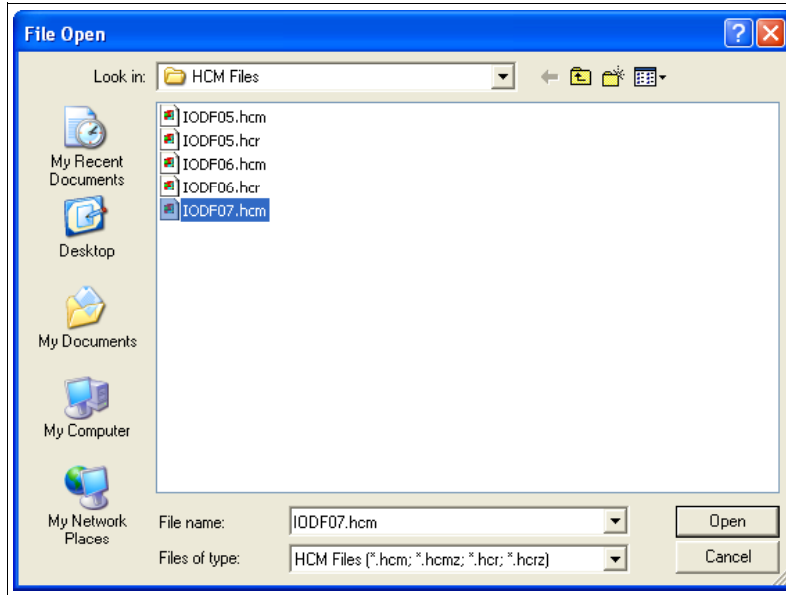

Figure 7-13 HCM File Open IODF06.hcm
1. Select the current work IODF using HCM. We use SYS6.IODF07.WORK for our example. Refer to Figure 7-13 on page 209.